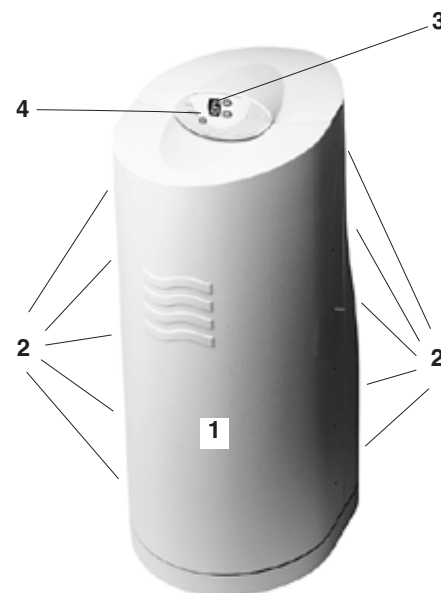

Fig. 1. Column Selector with cover.
1. Figure 1 shows a front view of the Column Selector with the Cover (1) mounted.
- The Cover (1) is magnetically secured and is simply pulled off to give access to the columns.
- Positioned on either side of the main unit are five holes (2) designed to allow tubing at the valve IN/OUT ports to pass through while the cover remains on. The multiple positions of the holes, allow the user to minimize tubing connectors to the injector and the detector.
- The Numeric Display (3) is visible with or without the cover on the unit. The number of the column that is in-line is displayed here.
- The Local-Remote button (4) is located in this area. The button controls manual or remote column selection.